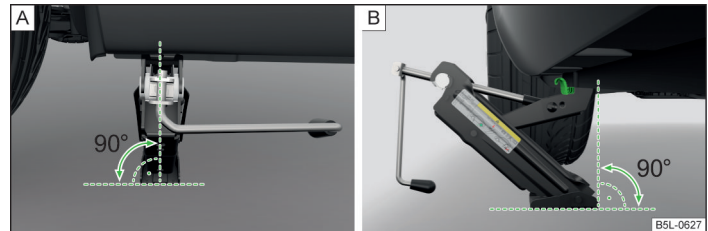

Fig. 176 Attach lifting jack
- Align the lifting jack so that its claw grasps the web » Fig. 176 - .
- Support the base plate of the lifting jack with its entire surface resting on level ground and ensure that the lever is positioned vertically to the point at which the claw grasps the web » Fig. 176 - .